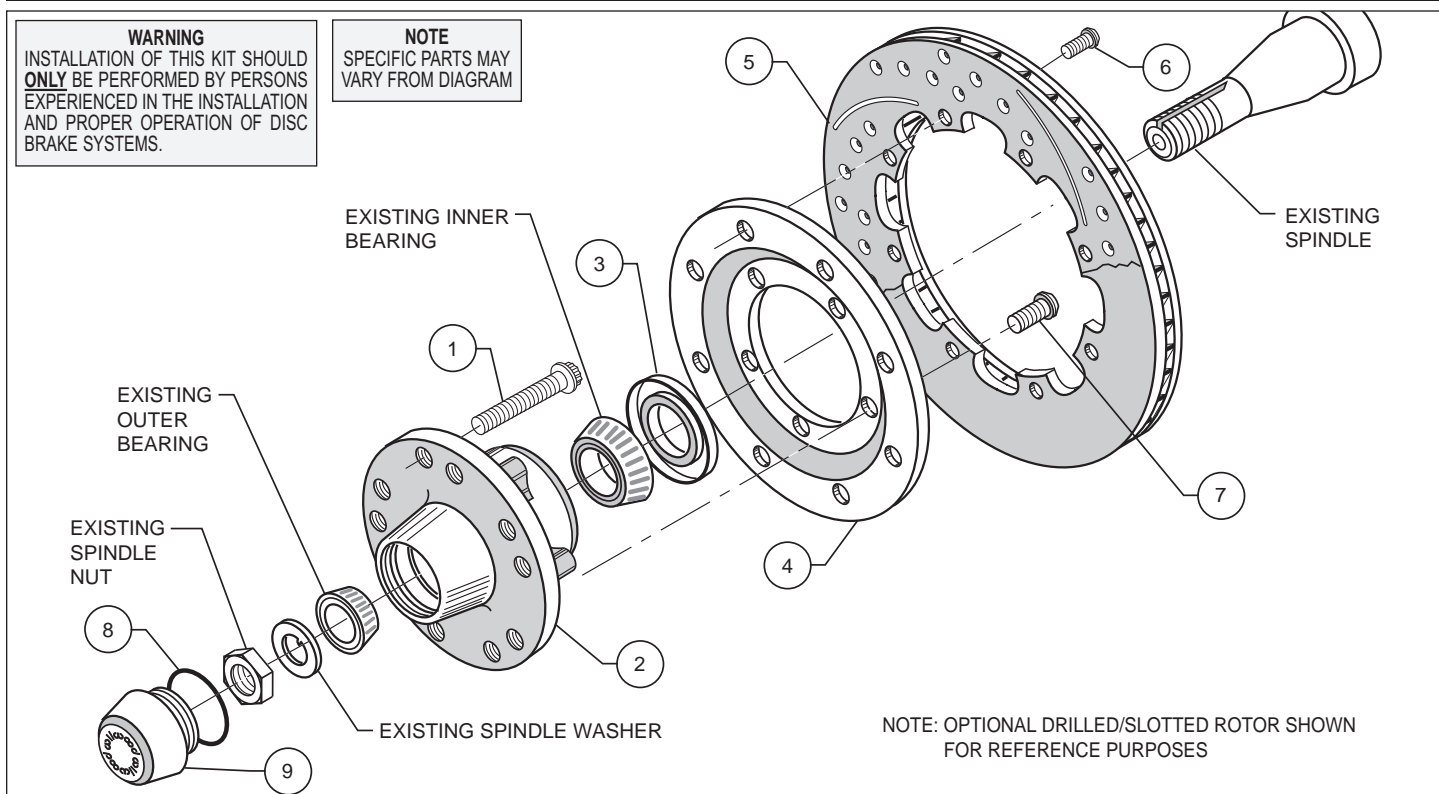

Figure 1. Typical Installation Configuration
- Pack the large inner bearing cone (use existing) with high temperature disc brake bearing grease (available from your local auto parts store) and install into the backside of the hub (2).
- Install the grease seal (3) by pressing into the backside of the hub (2).
- Orient the rotor (5) and the rotor adapter (4) as shown in Figure 1. Attach the rotor to the adapter using bolts (6). Using an alternating sequence, apply red *Loctite*® 271 to the threads, and torque to 25 ft-lb.
- Mount the adapter/rotor assembly (4/5) to the hub (2) using bolts (7), as shown in Figure 1. Using an alternating sequence, apply red *Loctite*® 271 to the threads, and torque to 45 ft-lb.
- Pack the small outer bearing cone (use existing) with high temperature disc brake bearing grease and install into front of hub (2). Slide the hub/rotor assembly (2 and 5) with outer bearing cone onto the spindle. Secure using spindle washer (reuse existing), stock adjusting nut and nut locking device. Adjust bearings per Original Equipment Manufacturer (OEM) specifications.
- Install the dust cap (9) onto the hub (2) with a new o-ring (8). Friction created by the o-ring (8) on the dust cap (9) keeps it from unscrewing. The O.D. of the spindle washer may be larger than the I.D. of the dust cap not allowing it to seat against the hub face. Some grinding on the washer O.D. may be necessary to clear the I.D. of the dust cap.